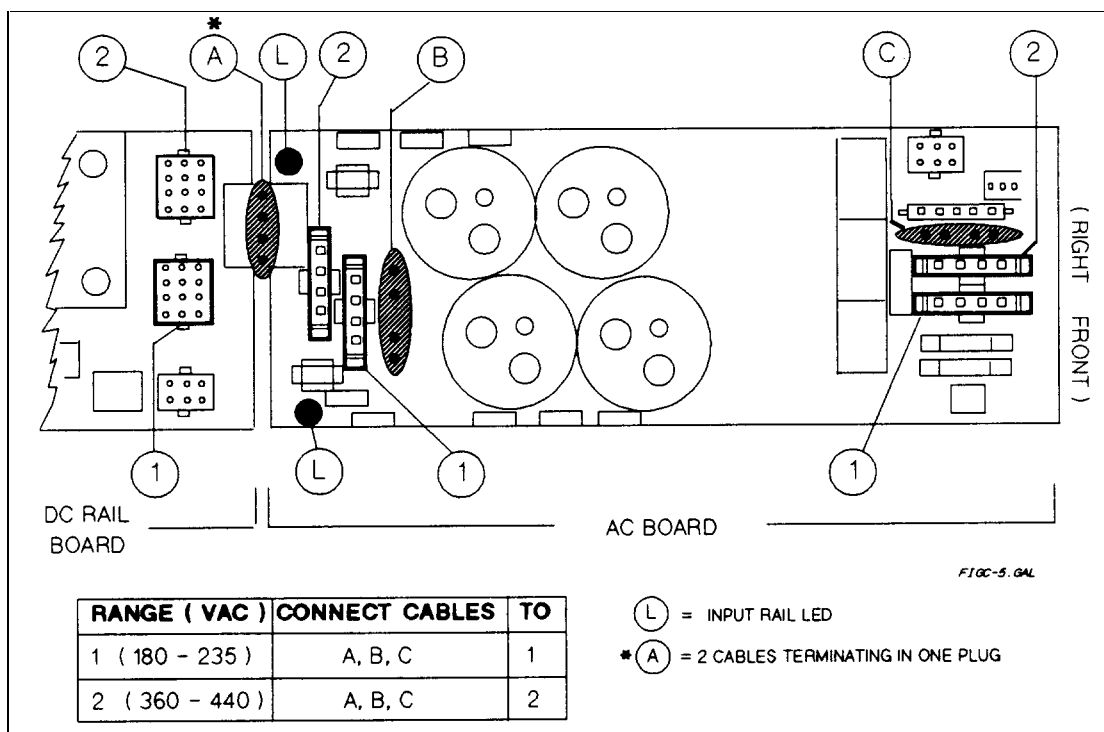

Figure C-5. Series 668xA Line Conversion Jumpers
8. Locate the three line conversion cables (A,B,C in Figure C-5). All three cables will be connected to the jacks that correspond to one of the voltage ranges (1 or 2, Figure C-5).